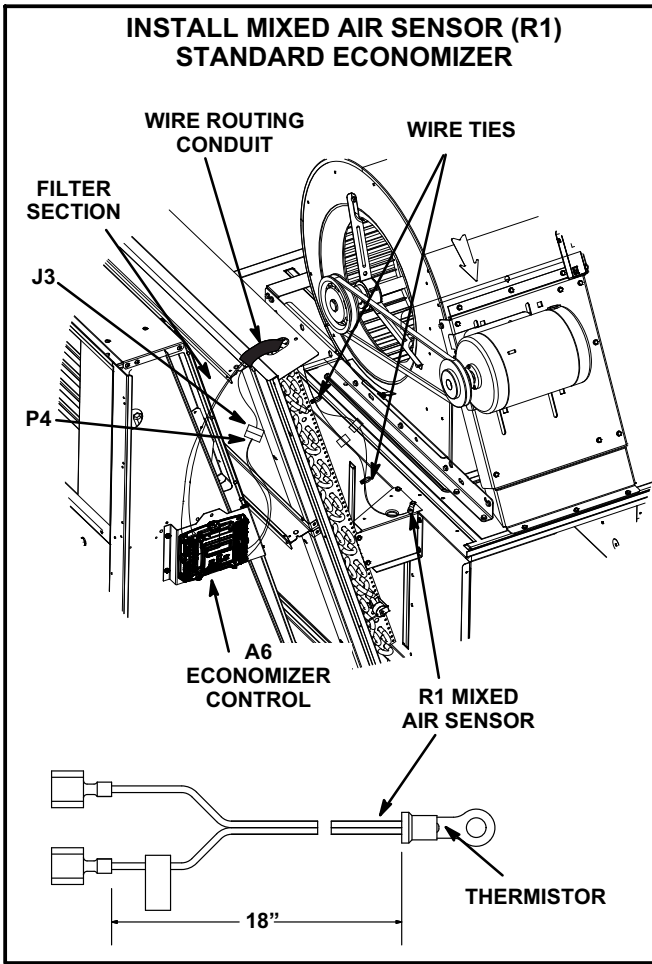

FIGURE 4
- 3- Install mixed air sensor, provided in kit, on indoor coil bracket. Secure with screw as shown in figure 4.
- 4- Locate the plastic conduit on top of the filter rack. Route the mixed air sensor wires through the conduit to the mixed air sensor. See figure 4.
- 5- Connect wires to terminals on mixed air sensor. See figures 4 and 6. Sensor is not polarity sensitive.
- 4- Locate the plastic conduit on top of the filter rack. Route the mixed air sensor harness through the conduit to the mixed air sensor. See figure 4.
- 1- Locate 15-pin J3 economizer jack harness hanging on left side of filter compartment. J3 is located in the same area on both standard and high performance economizers. See figure 4.
- 2- Disconnect P3 jumper plug from J3 and retain jumper plug for future troubleshooting. Connect 15-pin P4 economizer plug on A6 economizer control harness to J3 economizer jack. See figure 4.